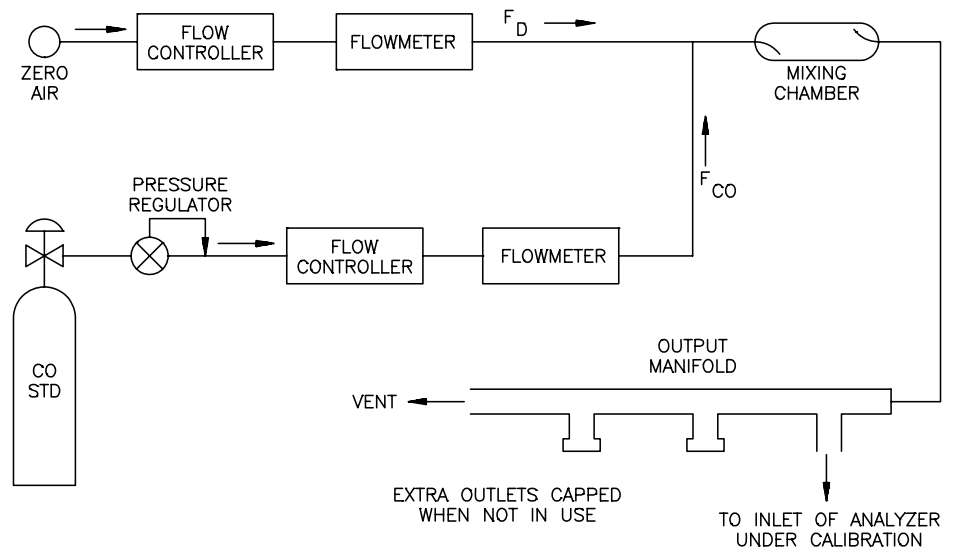

Figure 4-1. Calibration Flow Schematic
Connect the instrument and the calibration equipment as shown in Figure 4-1. If an optional sample line filter is used, the calibration must be performed through this filter. Ensure that the flow rate into the output manifold is greater than the total flow required by the analyzer and any other flow demand connected to the manifold.
2. Adjust the dilution system of Figure 4-1 so that zero air alone is present in the manifold.
2. Periodically challenging the instrument with a CO level of approximately 80% of the URL. The 80% URL level may be obtained by dilution of a higher level of CO using a system similar to that of Figure 4-1, or by using a low level cylinder of CO containing CO in air at a concentration of approximately 80% of the URL. In either case the cylinder of CO should be checked against an SRM or CRM. It should also be true for a cylinder of low level CO.